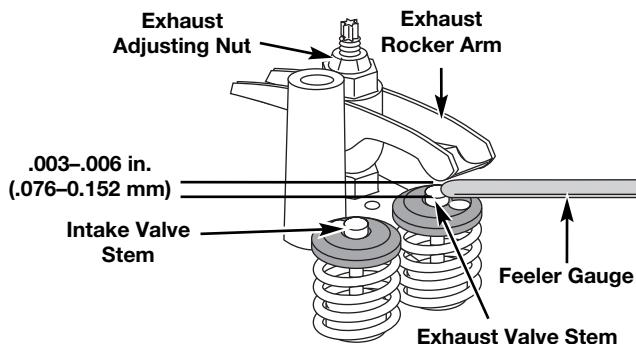

Fig. 35
The recommended clearance for the intake and exhaust is .003 – .006 in. (.076 – 0.152 mm). Use a standard automotive feeler gauge at .005 (0.127mm). The feeler gauge should slide between the rocker arm and valve stem with a slight amount of resistance, without binding. Figure 35 shows how to measure the clearance.
- Turn the adjusting nut using a 5/16 inch (8 mm) wrench or nut driver (Fig. 35).